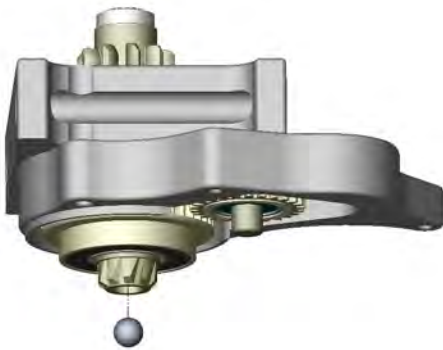

Figure 1
1. Remove the four bolts holding the *drive end housing* to the starter body. Two bolts parallel the starter's motor and the other two are found in the *drive end housing* near the *pinion gear*. **NOTE: The plunger ball may roll out of the pinion shaft and may be lost if care is not taken (Figure 1). The reduction gear and its four roller bearings and holder should be temporarily removed from the drive end housing or secured in the housing with tape.**